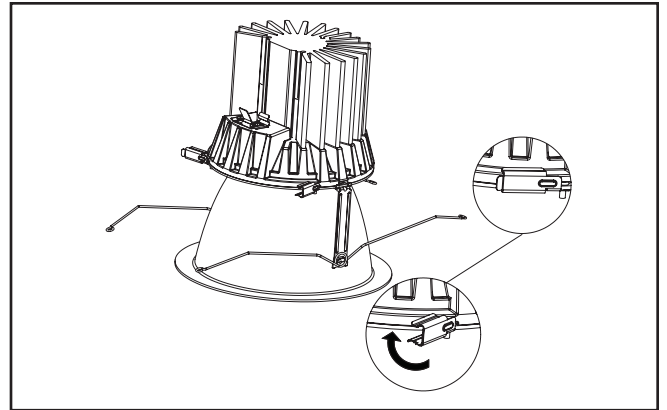

Figure 11.
4. Rotate side clips (3) into place to securely attach trim assembly to LED engine. (Figure 11.)